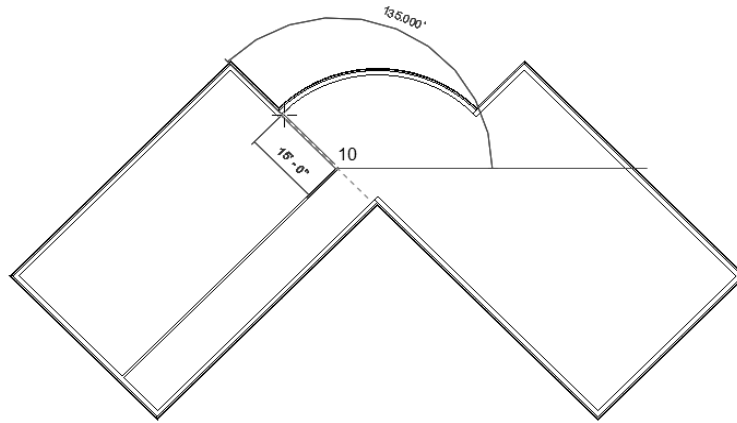

Figure 3-67 Sketching the second interior wall
5. Start the next wall from the endpoint of the last wall by clicking on its endpoint. Move the cursor upward toward the left such that it subtends an angle of 135 degrees with the horizontal and reaches the exterior wall displaying the **Nearest** object snap, as shown in Figure 3-67. Click to specify the endpoint of the wall.
6. Similarly, to start the next interior wall, bring the cursor close to the start end of the last created wall (marked as 10), refer to Figure 3-67. Then move the cursor away along the center of the wall that is connected to the last created wall until the temporary dimension appears. When the temporary dimension appears, enter the value **10'0"** and press ENTER to specify the start point of the wall.